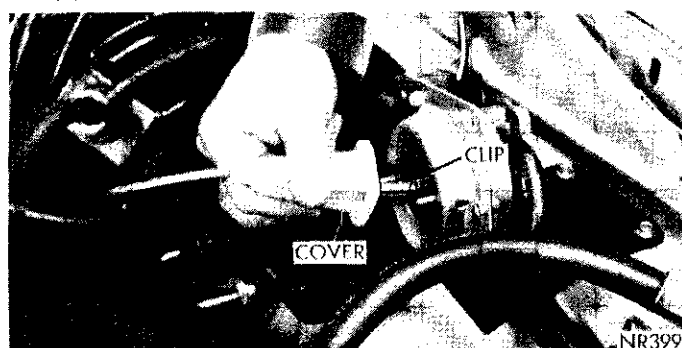
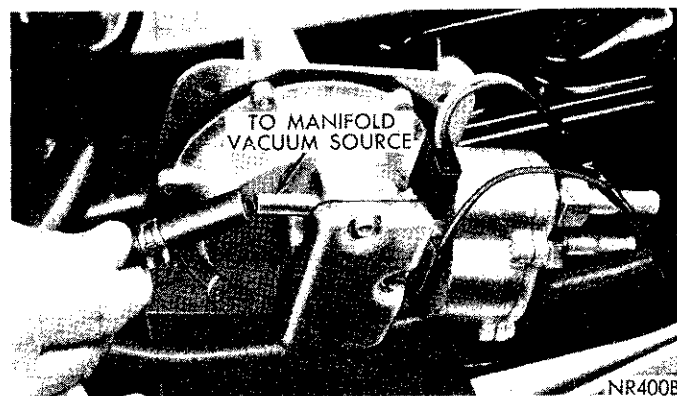

Fig. 6—Removing or Installing Throttle Cable Cover
Fig. 7—Removing or Installing Servo Hose
(1) Remove two self-locking nuts attaching the servo cable cover to servo housing. Pull cover away from servo to expose cable retaining clip (Fig. 6) and remove clip attaching cable to servo diaphragm pin.
(2) Disconnect speedometer and transmission drive cables at the servo housing.
(3) Disconnect vacuum hoses at servo housing (Fig. 7) and electrical connectors.
(4) Remove servo from mounting bracket (two self-locking nuts).
(2) Disconnect cable at retaining clamp and at carburetor lost motion link, removing hair pin clip.
(3) Disconnect cable at servo (Fig. 6) and remove cable assembly.